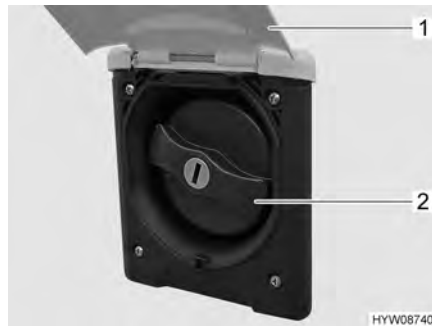

Fig. 98 Cap (drinking water filler neck)
- Swivel the external flap (Fig. 98,1) upwards.
- Turn the blue cap (Fig. 98,2) one quarter turn.